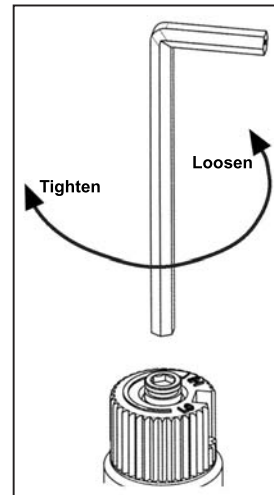

Figure 19: Removing valve screw.
- c) Insert a $\frac{5}{32}$ " or 4 mm Allen wrench into the hexagonal key-way of the screw (see Figure 19), rotate it counter-clockwise until it is free and extract it.
- f) Using the Allen wrench as shown in Figure 19, rotate the screw clockwise until a torque of 9 inch lbs. **WARNING!** Do not over tighten the screw. It is recommended that you grip the wrench by the short side.